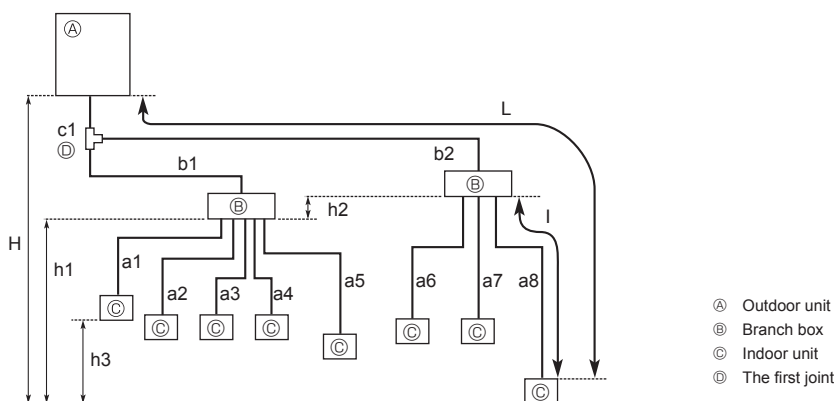

Fig. 4-1
4.2. Pipe length and height difference (Fig. 4-1)